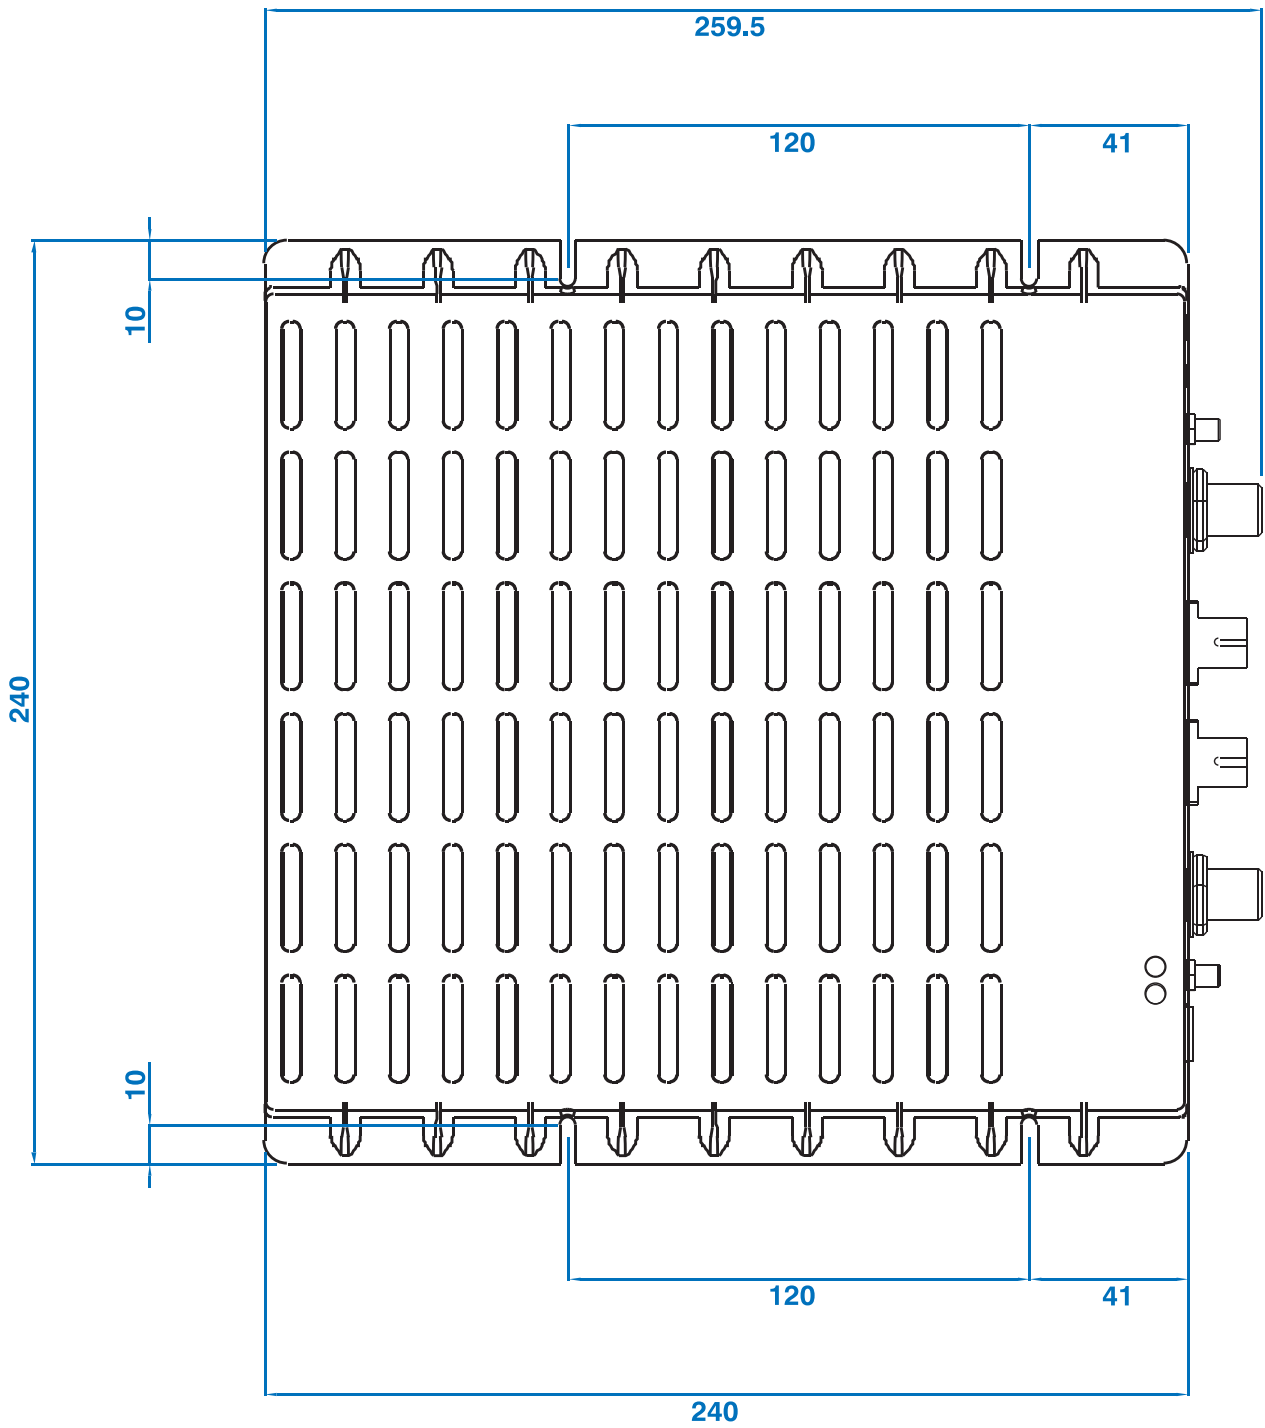

Figure 3.3.9 : Case B layout with wall anchor quotes
1. In order to install the M4 screw anchors (not included) which hold up the TFAx Remote Unit, drill into the wall according to the proper layout shown in Fig. 3.3.9.